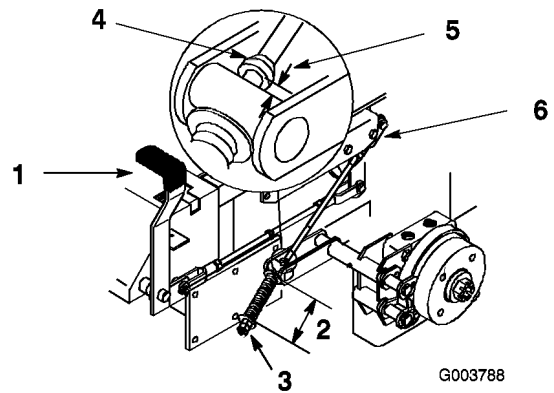

Figure 48
3. If adjustment is necessary, loosen the jam nut below the spring and tighten the nut directly below the yoke (Figure 48). Turn the nut until the correct measurement is obtained. Tighten the two nuts together and repeat on opposite side of unit.
The measurement should be 3/16-1/4 inch (5-7 mm) (Figure 48).
7. If adjustment is necessary, loosen the jam nut directly below the yoke. Turn the bottom rod until the correct measurement is obtained (Figure 48). Tighten jam nut at yoke
The measurement should be 2-3/4 inch (70 mm) between washers (Figure 48).